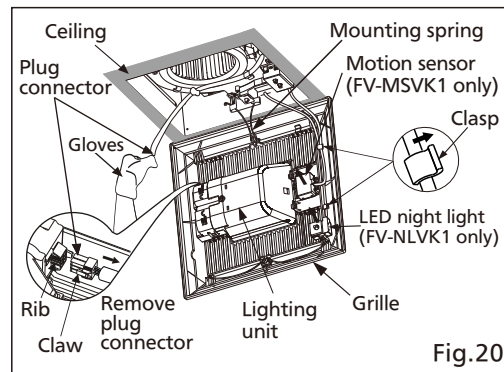

Fig.20
1. Remove grille by pulling down one mounting spring (Fig.20). Remove plug connector then pull down the other. (For models plug-in FV-MSVK1 or FV-NLVK1: Pull down the mounting spring that without lead wire passed side, and remove motion sensor or LED night light as shown in Fig.20) (Squeeze mounting spring and pull down carefully)